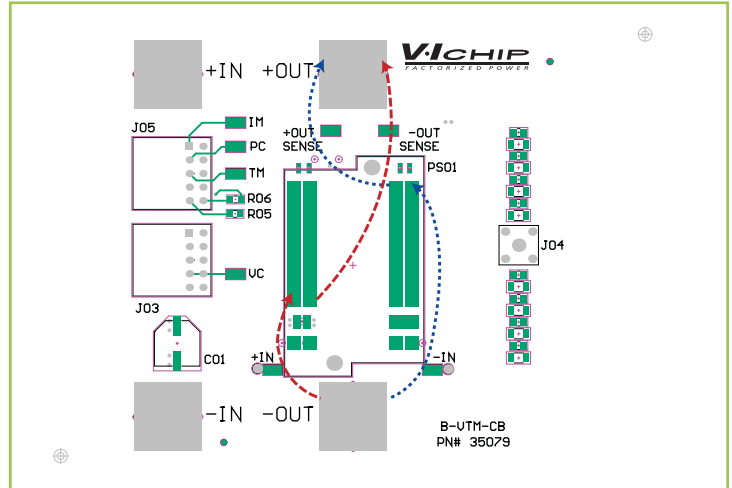

Figure 22 — Equal current path
- The total current path length from any point on the  $V_{+OUT}$  J-leads to the corresponding point on the  $V_{-OUT}$  J-leads should be equal (see Figure 22) .